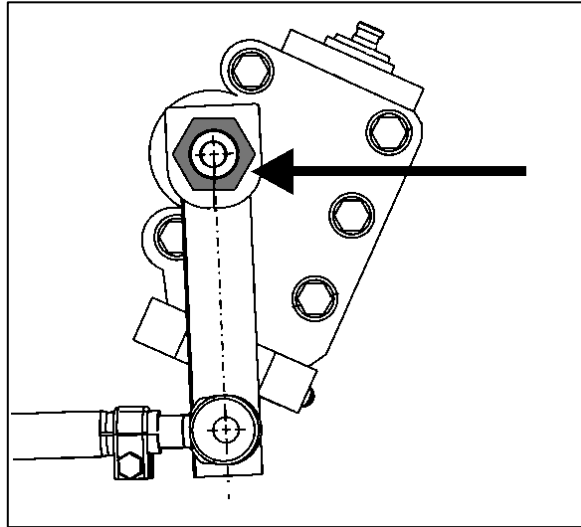

FIGURE 4: PITMAN ARM ADJUSTMENT
- Using a cold chisel, undo the punch mark (Fig. 4) that locks the nut to the pitman arm.